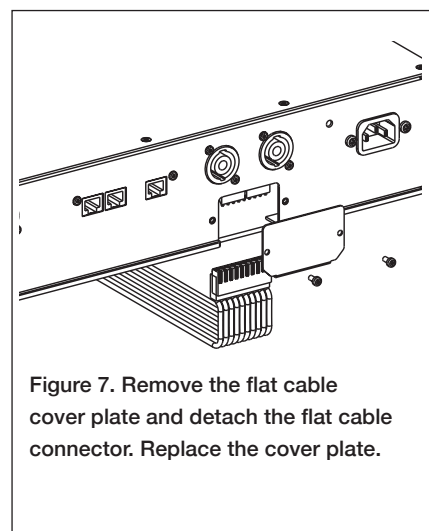

Figure 7. Remove the flat cable cover plate and detach the flat cable connector. Replace the cover plate.
6. Remove the cover plate of the flat cable connector (see figure 7). This cover,